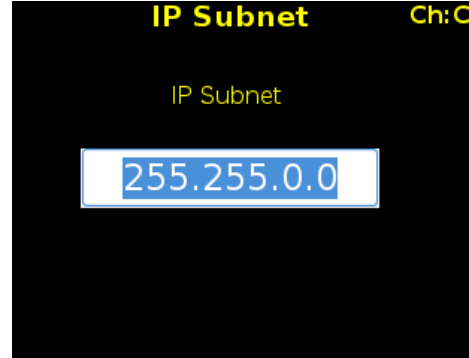

Figure 164: IP Subnet Entry
2. Type the IP subnet in the IP Subnet entry screen (Figure 164), then press the Enter key.